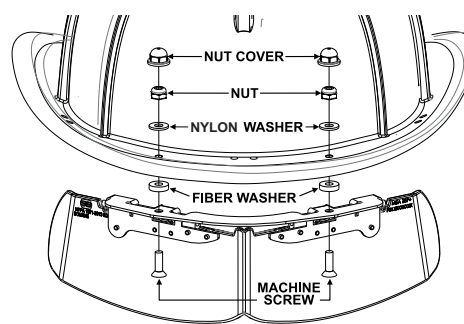
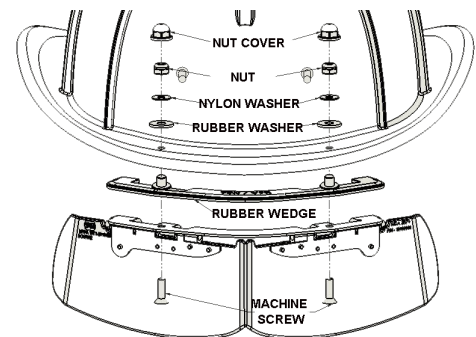

Fig. 5 Mounting the Bourke on 1010/1044/880 Fire Helmets
Fig. 6 Mounting the Bourke on leather helmets
- (4) Using the hardware provided, mount the Bourke to the respective helmet as shown in Fig. 5 and Fig. 6.
- (5) Remove protective covering from the lenses.